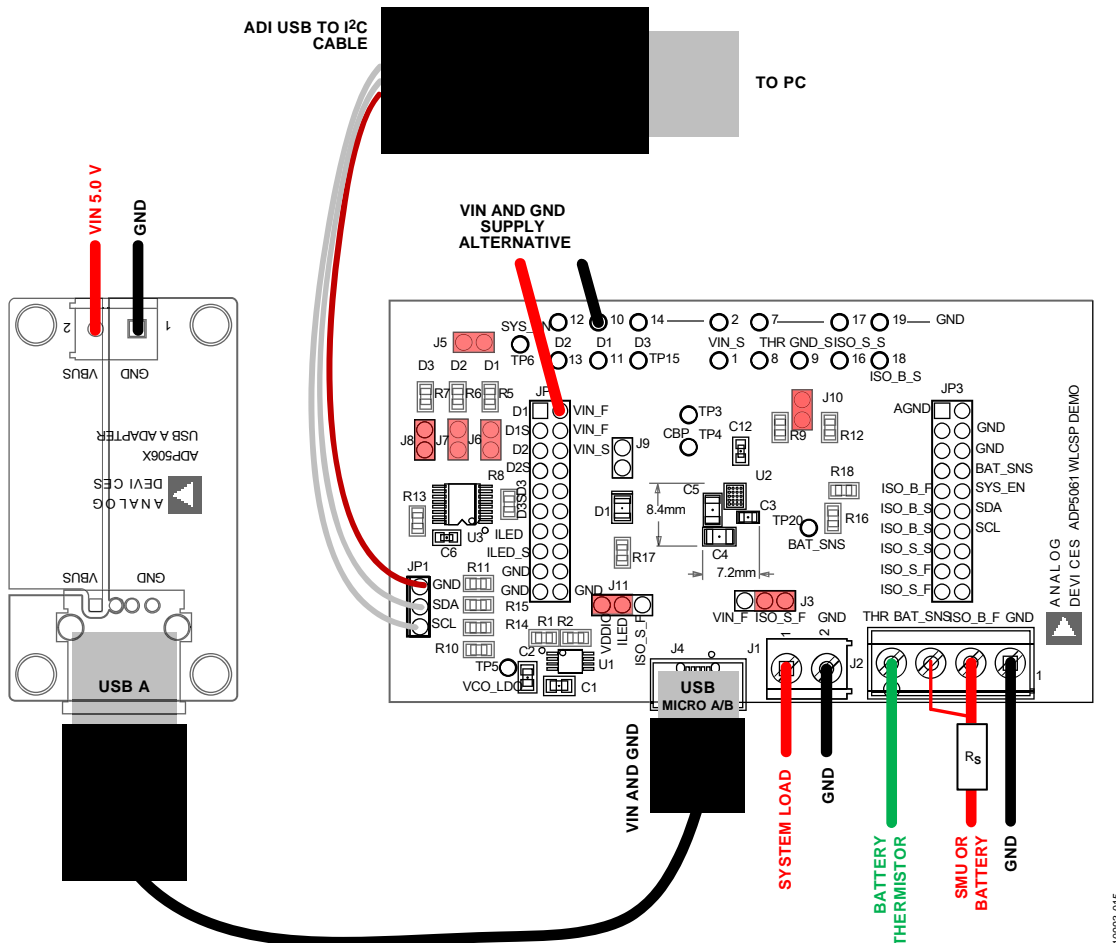

Figure 5. ADP5061 WLCSP Demo Board Typical Operation Setup.
2. Connect a 5 V power supply to VIN\_F using the USB Micro A-to-USB Micro B connector or alternatively connect the power supply between the VIN\_F test point and GND (see Figure 5).
The ADP5061 fast charge constant voltage (CV) regulation is optimized for batteries with series resistance in the 100 mΩ to 250 mΩ range. When using a SMU or a battery simulator connected to the ISO\_Bx, set the series resistance ( $R_s$  in Figure 5) within this range.